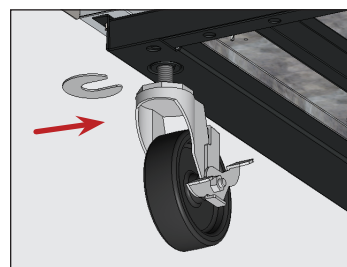

Fig. 9. Insert the castor shim(s). be sure to tighten the castor stem.
5. On the low end of the appliance, loosen the castor bolt enough to slide provided castor shims between the castor bearing and the bottom rail of the appliance. See fig. 9.
6. Install the desired number of shims. See fig. 9.